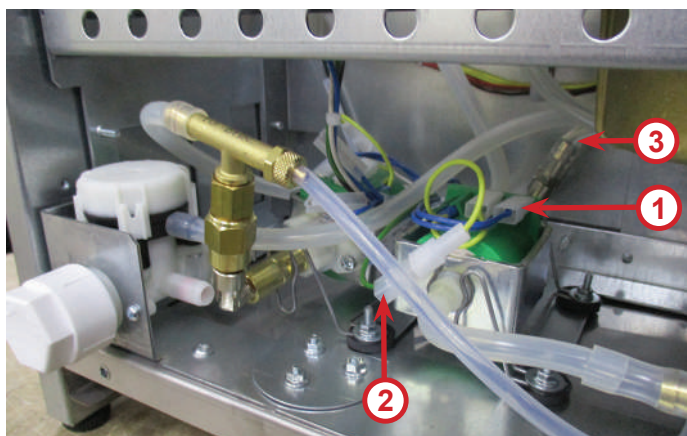

Fig.4.17a
- Disconnect the pump connectors (see fig.4.17a and 4.17b pos.1,2);
- Disconnect the silicone tube (see fig.4.17a and 4.17b pos.3);